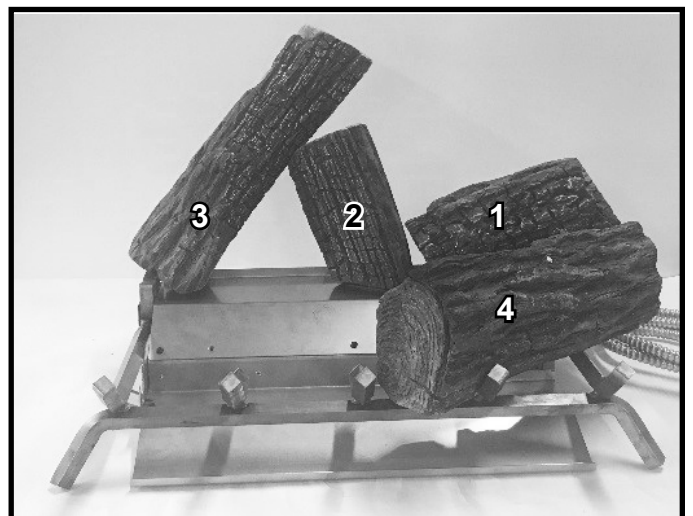

Figure 5. Install Log #4
5. Note the V-shaped grooves on the bottom of Log #4. Set Log #4 on the two front right side grate tines at an angle from front left to rear right as shown in Figure 5. Move the log until the grate tines engage with the V-shaped grooves on the bottom of the log. The right rear of Log #4 will rest on the burner tube bracket.